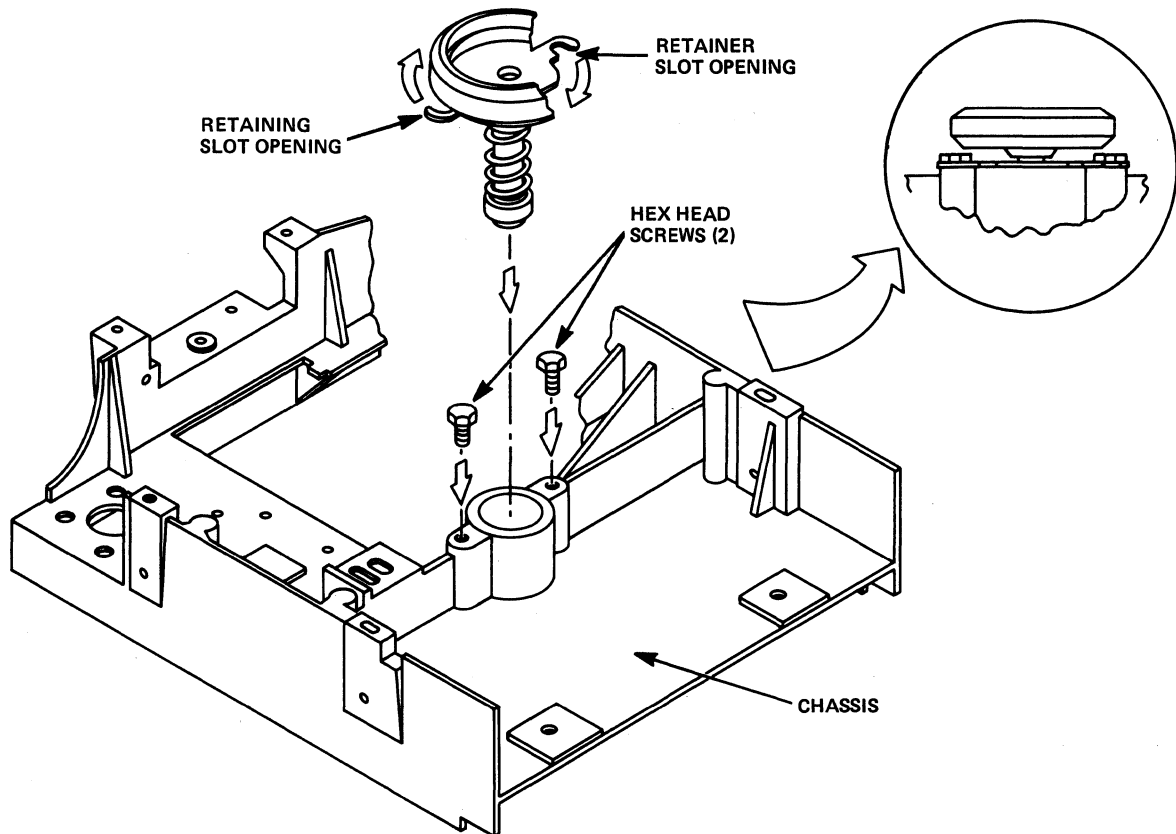

Figure 5-31
5.15.7 Using a one-quarter (1/4) inch wrench, loosen the two (2) hex head screws that attach the Spindle Assembly to the top of the chassis (see Figure 5-31).
5.15.8 Rotate the retainer counterclockwise until its slot openings no longer are held by the two (2) hex head screws (see Figure 5-31).
5.15.10 Insert the new Spindle Assembly carefully into its mounting hole at the top of the chassis (see Figure 5-31).
- 5.15.12 Using a one-quarter ($\frac{1}{4}$) inch wrench, tighten the two (2) hex head screws that attach the bearing retainer to the chassis (see Figure 5-31).